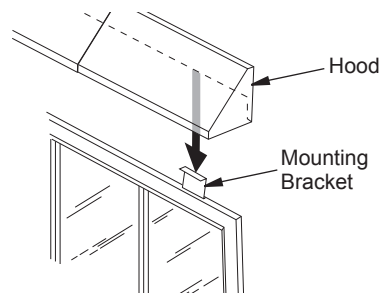

Figure 8 - Hood Placement
- Slide the hood over the mounting brackets (see Figure 8).